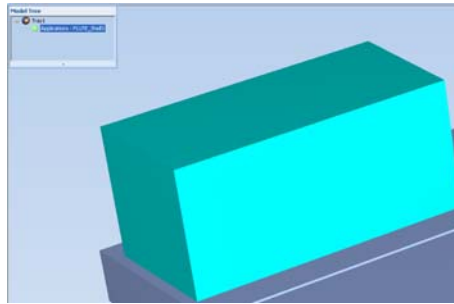

Figure 5-35: Model displayed with bounding box
- With a *Bounding Box* (see figure 5-35 on page 30)